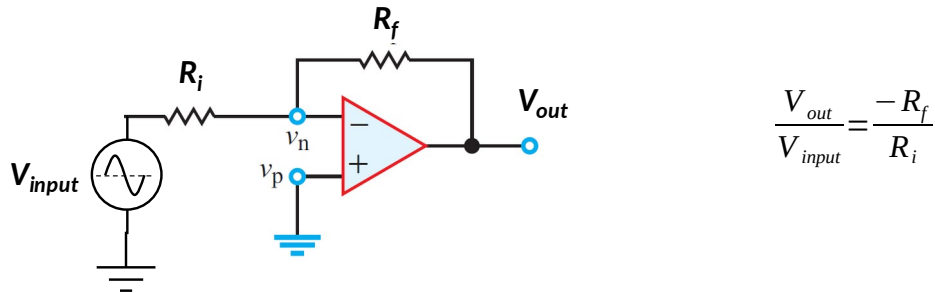
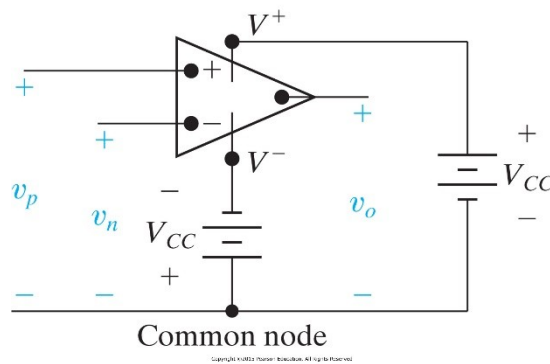

Figure 1. Inverting op-amp circuit.
Figure 2. DC power supply connections to op-amp. Common node is ground.
1.1 Build the circuit diagram in Figure 1 (with the power supply connections from Figure 2 and the signal connections from Figure 1!!).